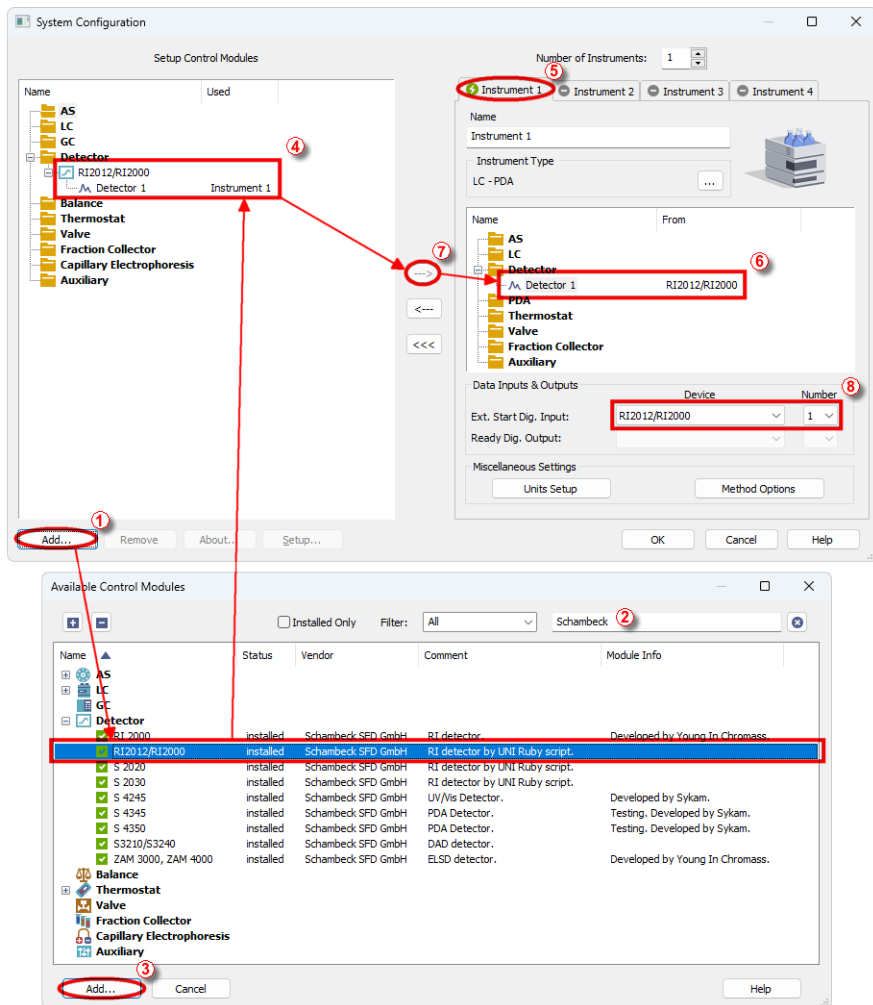

Fig. 3: How to Add UNI Ruby module
- Press the **Add** button (① on Fig. 3 on pg. 4.) to invoke the **Available Control Modules** dialog.
- You can specify the search filter ② to simplify the finding of the driver.
- Select the correct item and press the *Add* (③ on Fig. 3 on pg. 4.) button. Each device with already created UNI profile should have its own item named accordingly in the *Available Control Modules* dialog.